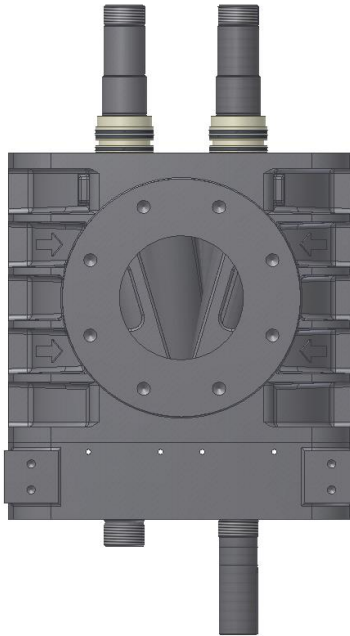

Figure 7-6 – ROTOR INSTALLATION
19. Thread 3/4-10 eye bolts into the appropriate end of rotor shaft. Using a hoist, carefully install both rotors into air cylinder ensuring piston rings do not catch on insert. Verify long end of drive rotor extends through drive-end bearing housing and is in correct bore. Ensure rotation of each rotor matches arrows on outside of air cylinder. Ensure rotor lobe helix angles match triangular shape of discharge port. Reference FIGURE 7-6.